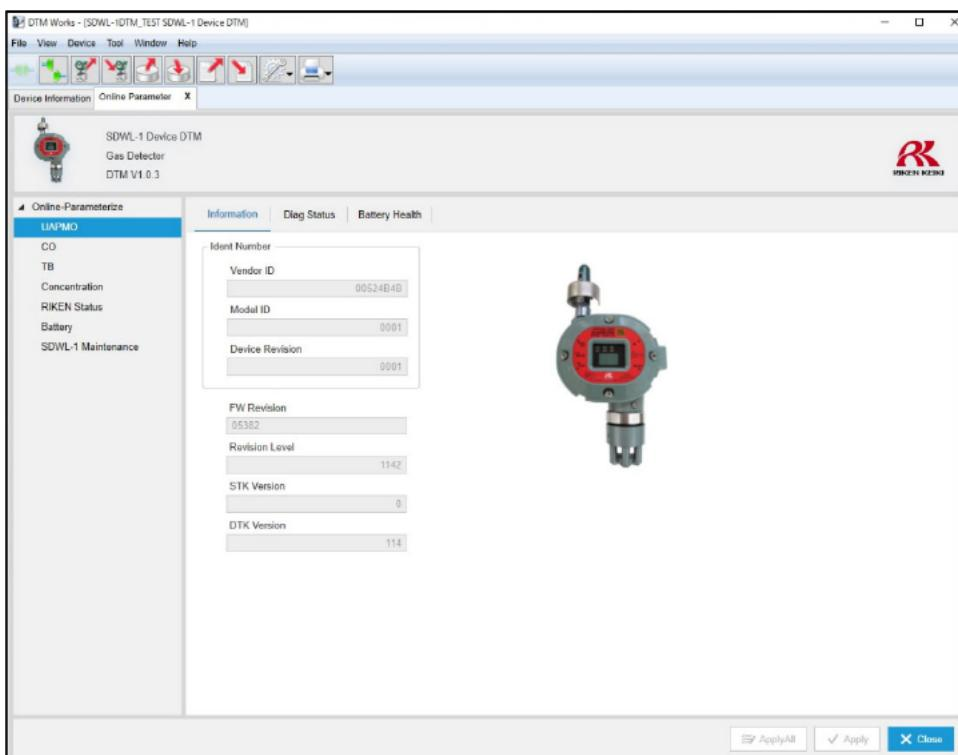

Figure 5-14 DTM Works (normal window)
- ⑪ Once DTM Works is launched, the window shown in Figure 5-14 below is displayed. Parameter loading starts automatically. Parameters can then be checked and configured.